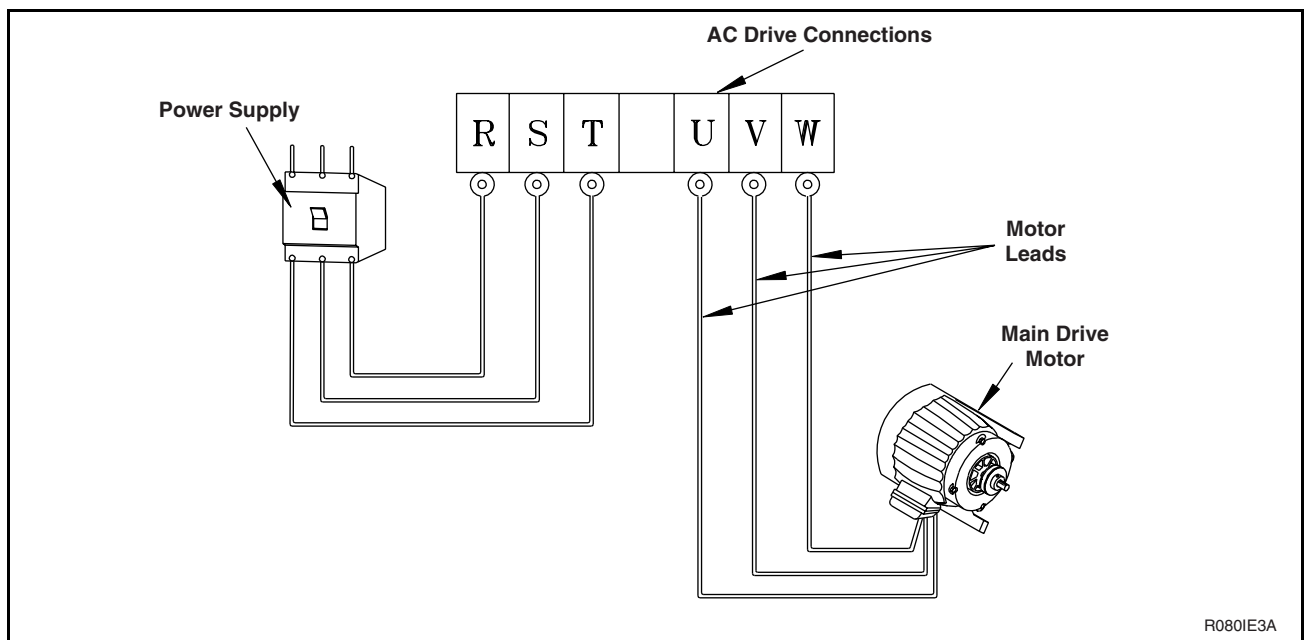

Figure 14
7. Rotation must be counterclockwise in the spin step. If rotation is not counterclockwise in the spin step, disconnect power. A qualified electrician must reverse any two leads between the AC drive and the motor. See Figure 14.